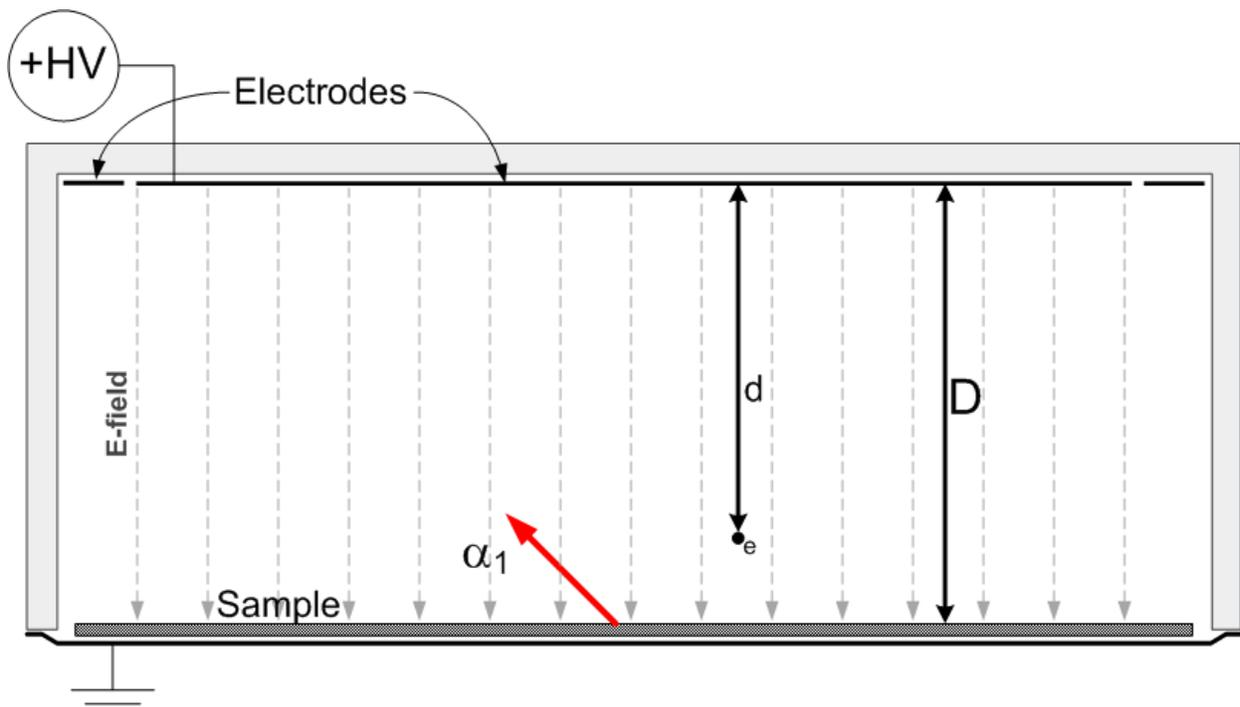

Figure II-2: Schematic overview of the important parts of the UltraLo-1800's active volume.
To understand how the UltraLo-1800 works we start with a description of its active volume. As shown in Figure II-2, the active volume is set up as two parallel conductive plates separated by distance **D**. The top plate, called the **electrode**, is held at positive voltage (denoted **V** throughout), which is typically 1000 V. The bottom plate, called the **sample tray**, is held at ground potential and holds the sample to be measured. This arrangement produces an **electric field (E)** between the plates that has the value **V/D**. The volume between the plates is filled with a high-purity **counting gas**, in this case argon. Finally, the sides of the chamber, called the **sidewalls**, hold the **fieldshapers**, which are PCBs containing strips of copper separated by resistors that keep the electric field lines parallel throughout the volume.
Suppose a radioactive isotope on the sample tray decays, emitting an alpha particle in a random direction. In Figure II-2 it leaves the atom and is stopped in the gas after traveling some distance. This distance is called its **range** and is a function of both the alpha particle's energy and the specific gas species. As the alpha particle travels through the gas it loses energy by ionizing the gas molecules, producing a **track** of ion-electron pairs. The range and number of pairs (**N**) created in the gas increase with energy of the alpha particle. Being charged, these ions and electrons drift in the applied electric field, the electrons toward positive voltage on the electrode, the ions toward the tray. Each drifts with a velocity equal to its **mobility (μ)** in the gas times the electric field, or: $v_e = E \cdot \mu_e = V \cdot \mu_e / D$ (where the subscript "e" indicates "electron", and "i" would indicate "ion"). The mobility of electrons is thousands of times higher than that of ions, thus they drift to the electrode faster than the ions drift to the tray. How long does this take? If the electron is freed a distance **d** away from the electrode (as in Figure II-2), its drift time is **d/v_e** seconds, or $t_e = d \cdot D / V \cdot \mu_e$. When **d** is the height of the entire chamber, **D=15cm**, and **V=1000V**, then **t_e** is found to be approximately 70 μ s in argon.
The second key design feature that allows the UltraLo-1800 to be “zero-background” is its veto, or guard electrode. The electrodes are arranged as shown in Figure II-2 and are read out simultaneously, with the interior, active portion called the **anode**, and the exterior portion called the **guard**. As can be seen from Figure II-6, tracks originating on the counter sidewalls or on the tray outside the sample region will induce signals on the guard and can be rejected. When combined with the risetime discrimination discussed earlier, we are capable of rejecting events that originate on any surface other than the sample.